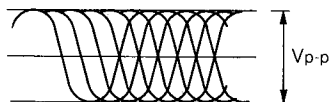

Fig. 21
- (2) Insert the disc and place the unit in the play mode.
- (3) Adjust VR103 so that the voltage becomes 2.5Vp-p  $\pm$  0.3V. (fig. 21)